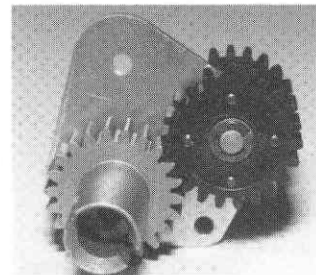

Fig. 50
□ **Fig. 50** Oil and put the 2nd gear on and install both "E" clips.